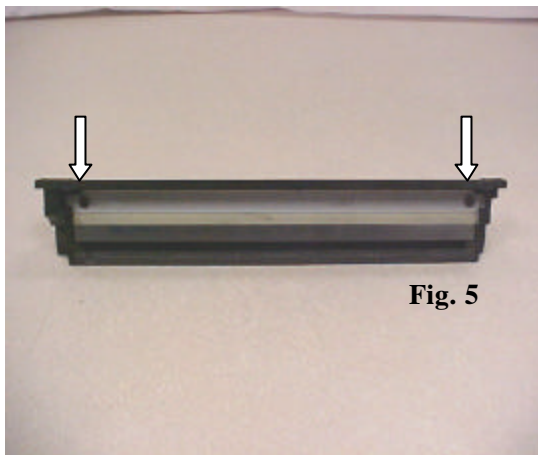

Fig. 5
6. To remove the wiper blade from the waste hopper sub-assembly, remove the two screws that secure it in place (Fig. 5).